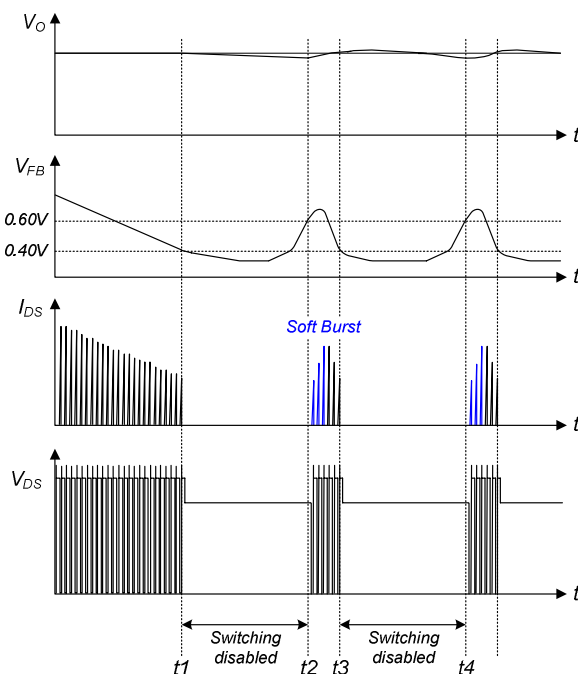

Figure 23. Burst-Mode Operation
**5. Soft Burst-Mode Operation:** To minimize power dissipation in standby mode, the FSGM0765R enters burst-mode operation. As the load decreases, the feedback voltage decreases. As shown in Figure 23, the device automatically enters burst mode when the feedback voltage drops below  $V_{BURL}$  (400mV). At this point, switching stops and the output voltages start to drop at a rate dependent on standby current load. This causes the feedback voltage to rise. Once it passes  $V_{BURH}$  (600mV), switching resumes. At this point, the drain current peak increases gradually. This soft burst-mode can reduce audible noise during burst-mode operation. The feedback voltage then falls and the process repeats. Burst-mode operation alternately enables and disables switching of the SenseFET, thereby reducing switching loss in standby mode.